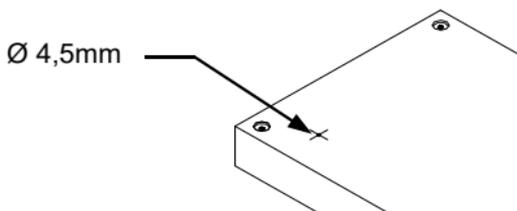

FIG. 2.0
- Mark the centre of hole to be drilled in the lid for the LED clip **Fig. 2.0**